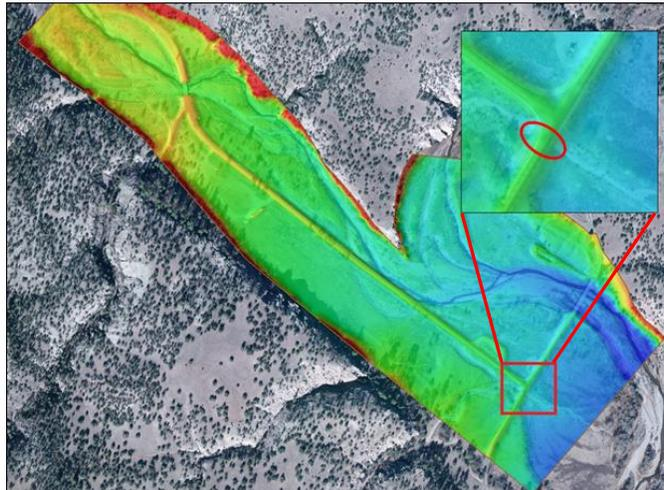

Figure 2 Zoomed in on the gate location
The first step is to create arcs within the boundary condition coverage that represent the gate structure near the intersection of the two roads as displayed in Figure 2.
1. **Zoom**  into the gate location shown in the Figure 2 inset.